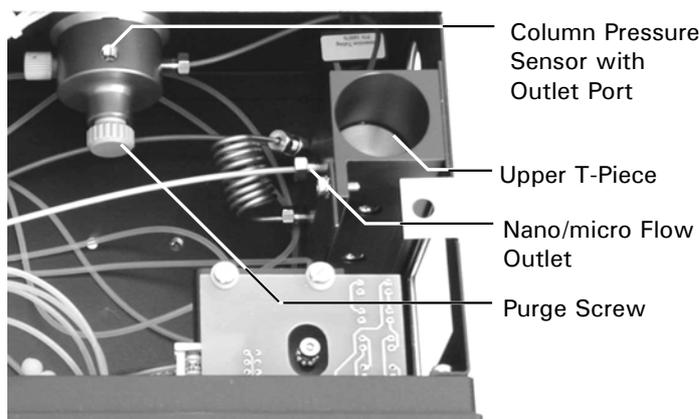

FIGURE 2-42 Purge Valve – Column Pressure Sensor
- b) Disconnect the connecting tubing from the Nano/Micro flow outlet of the upper T-piece (FIGURE 2-42).
- c) Open the purge valve of the column pressure sensor (FIGURE 2-42) a quarter turn counter clockwise.